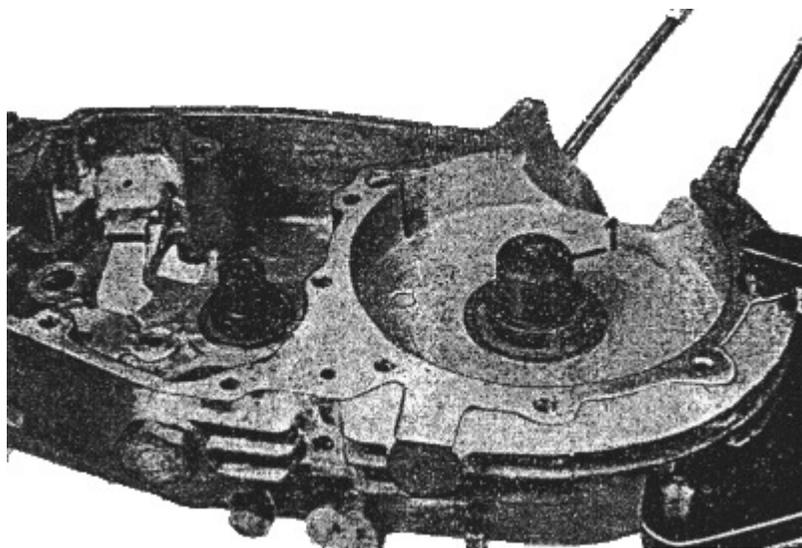

Fig. 40. Heating the internal races
- Heat the internal races of the bearing 6204 already fitted in the casing by means of a heating mandrel (1 in Fig. 40).